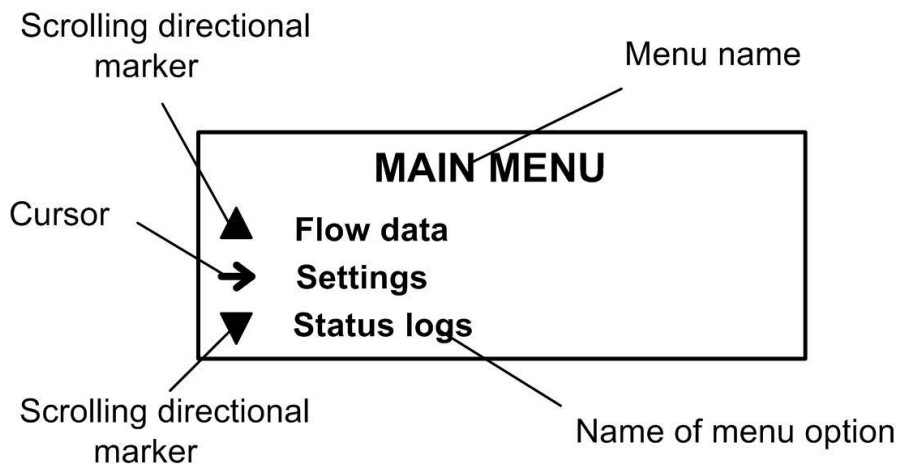

Fig.1. The Main menu.
1.1.1. To control the flowmeter from the CS keyboard, you use the hierarchical menu system (see Appendix A) consisting of the main menu, submenus and windows which give access to the lists of commands and options. The composition and structure of the main menu (Fig.1) is constant. Number and contents of submenus and windows as well as settings available for modification depend on the flowmeter's operating mode.
1.1.3. The display shows the menu (window) name which is displayed in the first line of the LCD indicator, and menu items (options) which can be moved up or down (see Fig.1).
- 1.1.5. Number of lines (menu items, list options) indicated on the display cannot exceed 3 at a time. Scroll direction indicators may therefore be shown at the beginning of the first and the last lines of menu items (or options). These indicators are triangles (see Fig.1) with vertexes showing the directions where the cursor can navigate through the lines (menu items, and settings).